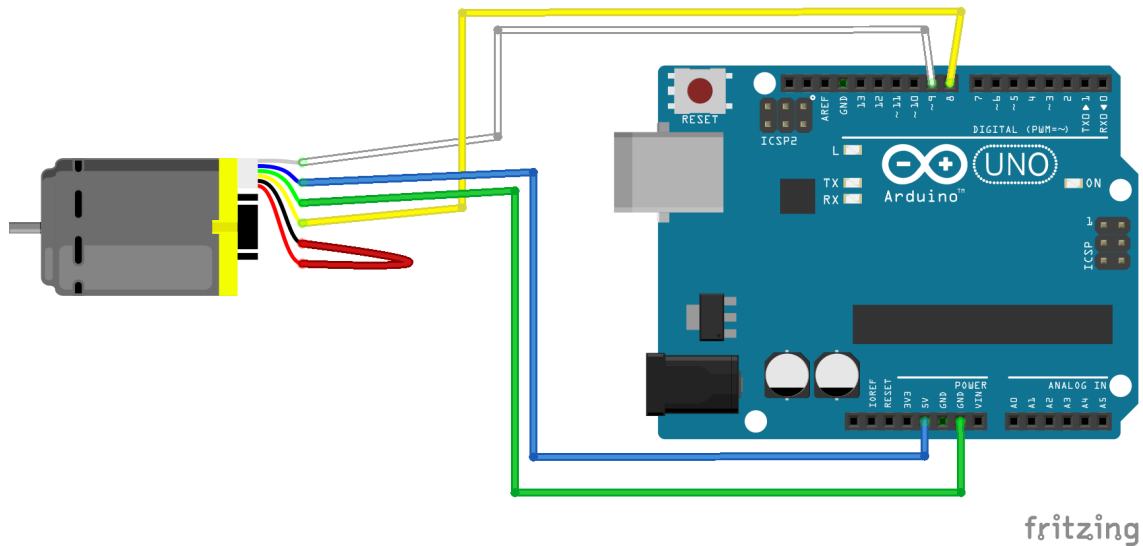

Figure 2 – A wiring diagram illustrating how to connect the encoder to the Arduino.
5. Use a single jumper wire to short circuit the red and black motor power wires, as illustrated in Fig. 2.